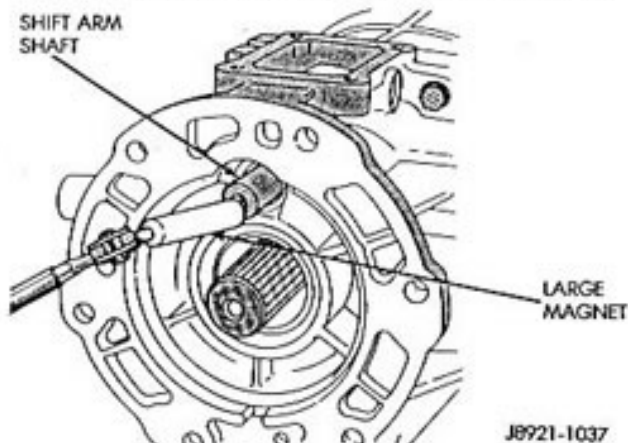

Fig. 7 Removing/Installing Shift Lever Shaft
(8) Remove the shift arm shaft with a large magnet (Fig. 7).